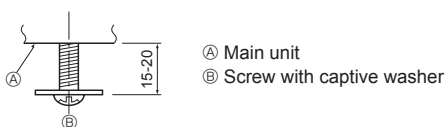
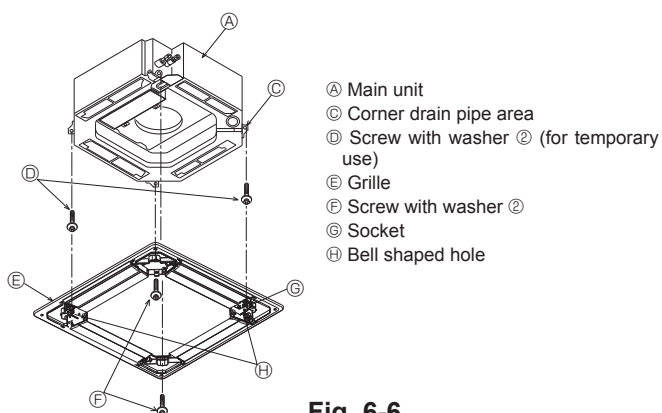

Fig. 6-5
Fig. 6-6
6.4.1. Preparations (Fig. 6-5)
- Install the 2 enclosed screws with washer ② in the main unit (at the corner drain pipe area and at the opposite corner) as shown in the diagram.
6.4.2. Temporary installation of the grille (Fig. 6-6)
- Temporarily secure the grille using the bell shaped holes by putting the socket of the grille marked ③ on the corner drain pipe area of the main unit.